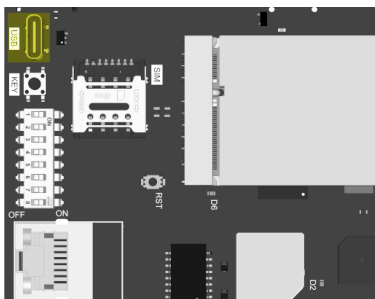

Fig. 6-15 Position of the USB socket
4. Connect a USB type C data cable to the type C socket at the top left of the main board (see Fig. 6-15)